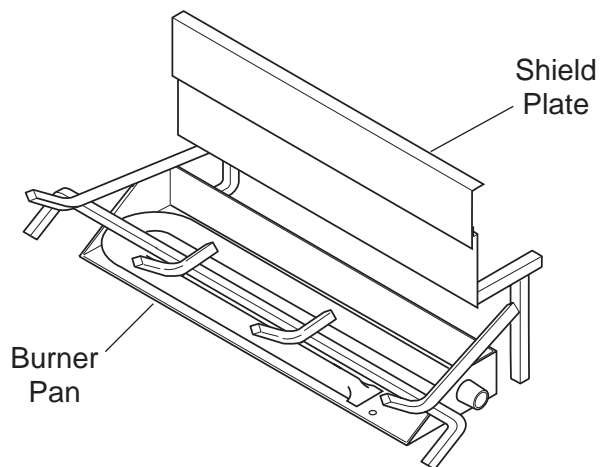

Figure 122 - Sliding Shield Plate Down Back of Burner Pan
1. Slide shield plate down back of burner pan. See Figure 122.